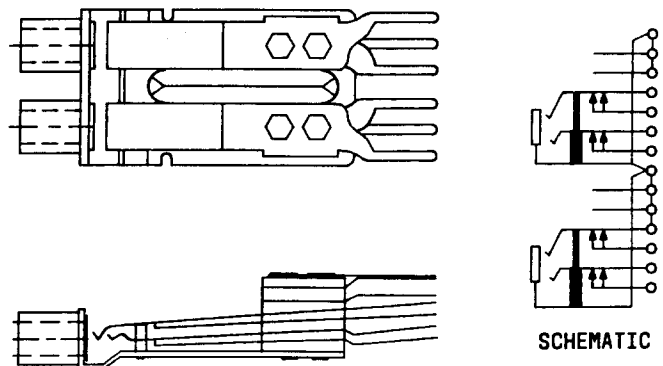

Fig. 3—653AM Jack
**2.03 653AM:** The 653AM jack is a singly-mounted, 3-conductor, twin-type jack (Fig. 3) for mating with a 338- or similar-type twin plug. Each jack's tip and ring elements contains an isolating (break) contact with each jack having two additional terminals for additional connections. All terminals are equipped for solderless wrap connections and the frame has one centrally located mounting hole. This jack is used on the DSX1 test jack assembly.